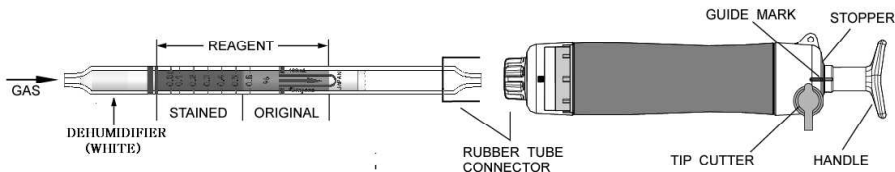

Fig.1
- ② Insert the detector tube into aspirating pump securely as shown in Fig.1. (Arrow mark shall point to the pump.)
- ③ Align the guide marks on the handle and stopper of the aspirating pump.
- ④ Pull the pump handle at full stroke until it locks and wait for 1 minute or until the completion of sampling is confirmed with the flow indicator of the pump (See descriptions about the flow indicator in the instructions of the pump).
- ⑤ On completion of sampling, read the scale at the maximum point of the stained layer and correct it with the temperature correction table if needed.
- ⑥ If the discoloration is over the scale, change the tube and pull 1/2 strokes.